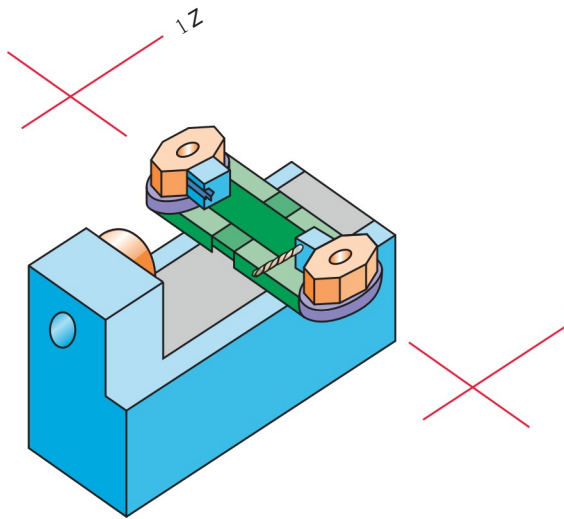

Figure 17-18 Identify the primary and two auxiliary axes of this lathe.
- A multitasking CNC lathe capable of cutting both sides of the work features two programmable tool turrets. Each can move individually in two directions. Identify the missing axes on this machine and their sign value (1 or 2) (Fig. 17-18).